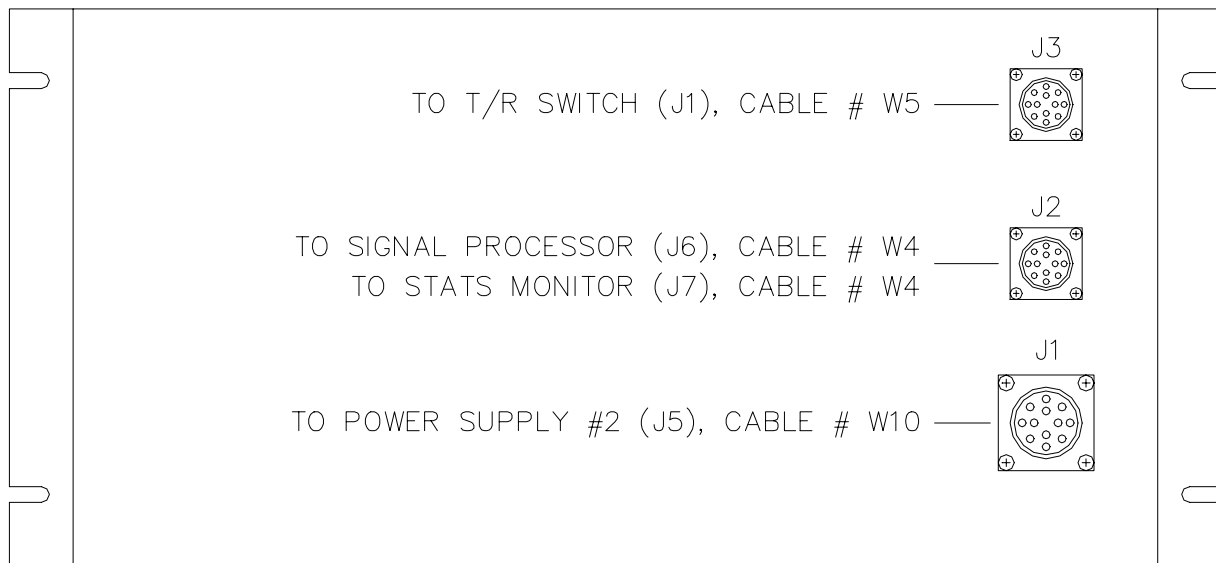

Figure 5-28 BSU Switch Assembly Rear Panel
3. Loosen the retaining nuts on connectors P1, P2, and P3 on the rear panel of the BSU Switch Assembly and remove the connectors from ports J1, J2, and J3 (see Figure 5-28).